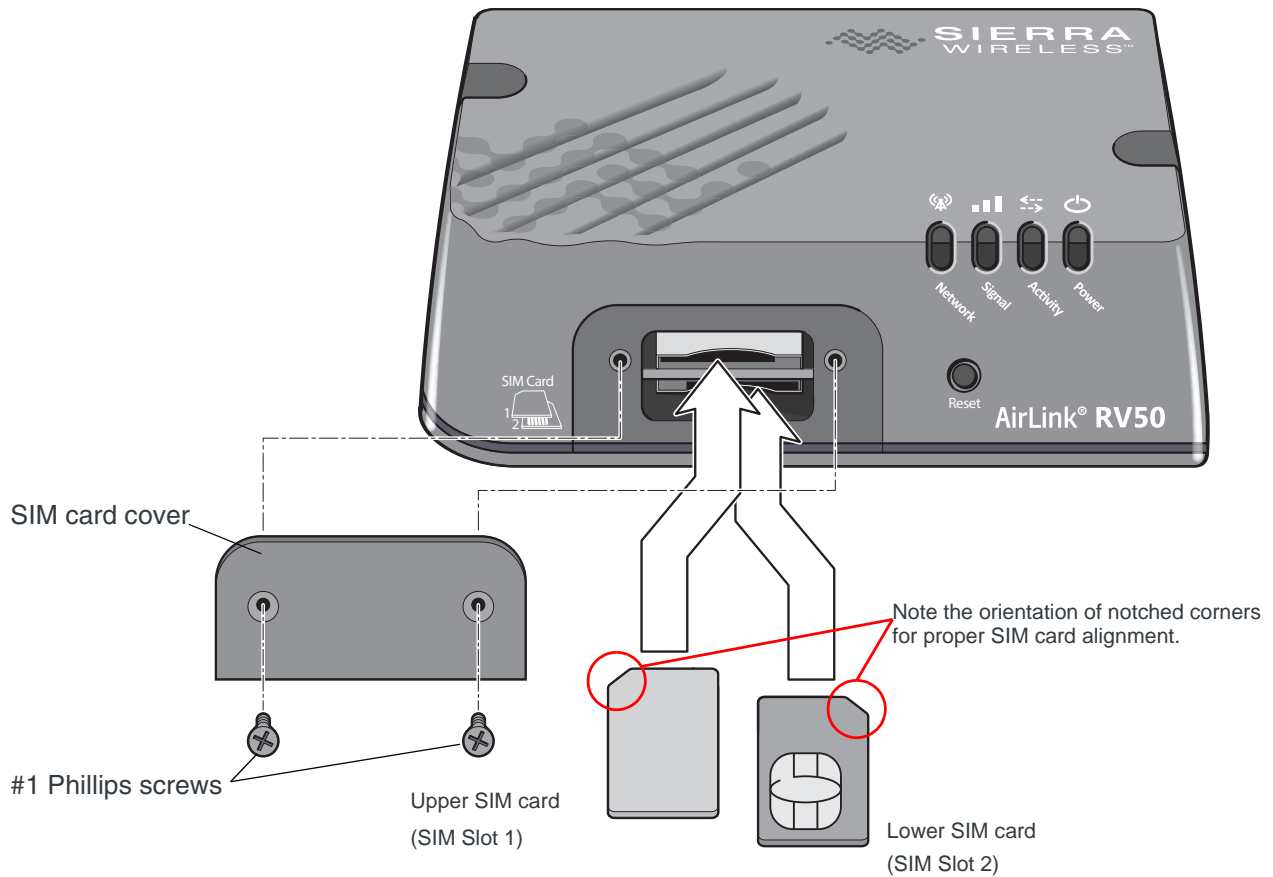

Figure 3-1: Installing the SIM Card
2. Orient the SIM card(s), as shown in Figure 3-1. The gold contacts on the upper SIM card face down, and the gold contacts on the lower SIM card face up. If you are using only one SIM card, insert it in the upper SIM slot (Slot 1).